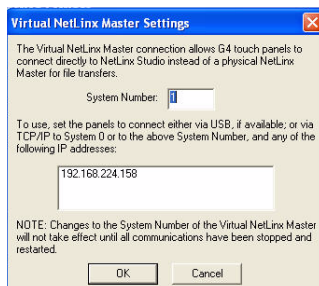

FIG. 37 Virtual NetLinx Master Settings dialog
6. Click the **Edit Settings** button to open the *Virtual NetLinx Master Settings* dialog (FIG. 37).